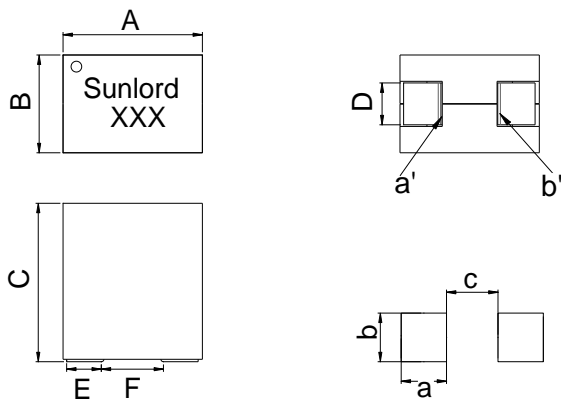

Fig.3-1 Recommended PCB Layout
Dimensions and recommended PCB pattern for reflow soldering, refer to Fig.3-1 and Table 3-1.
- ※ Nominal DCR is measured from point a' to point b'. (refer to Fig. 3-1)